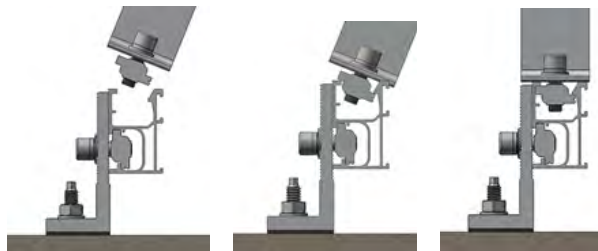

Figure 5.5C
5.5.2 Fix the Rear Leg into the top channel of ECO Rail, then fasten the Rear Leg after the position is adjusted properly as shown in Figures 5.5C, 5.5D and 5.5E.